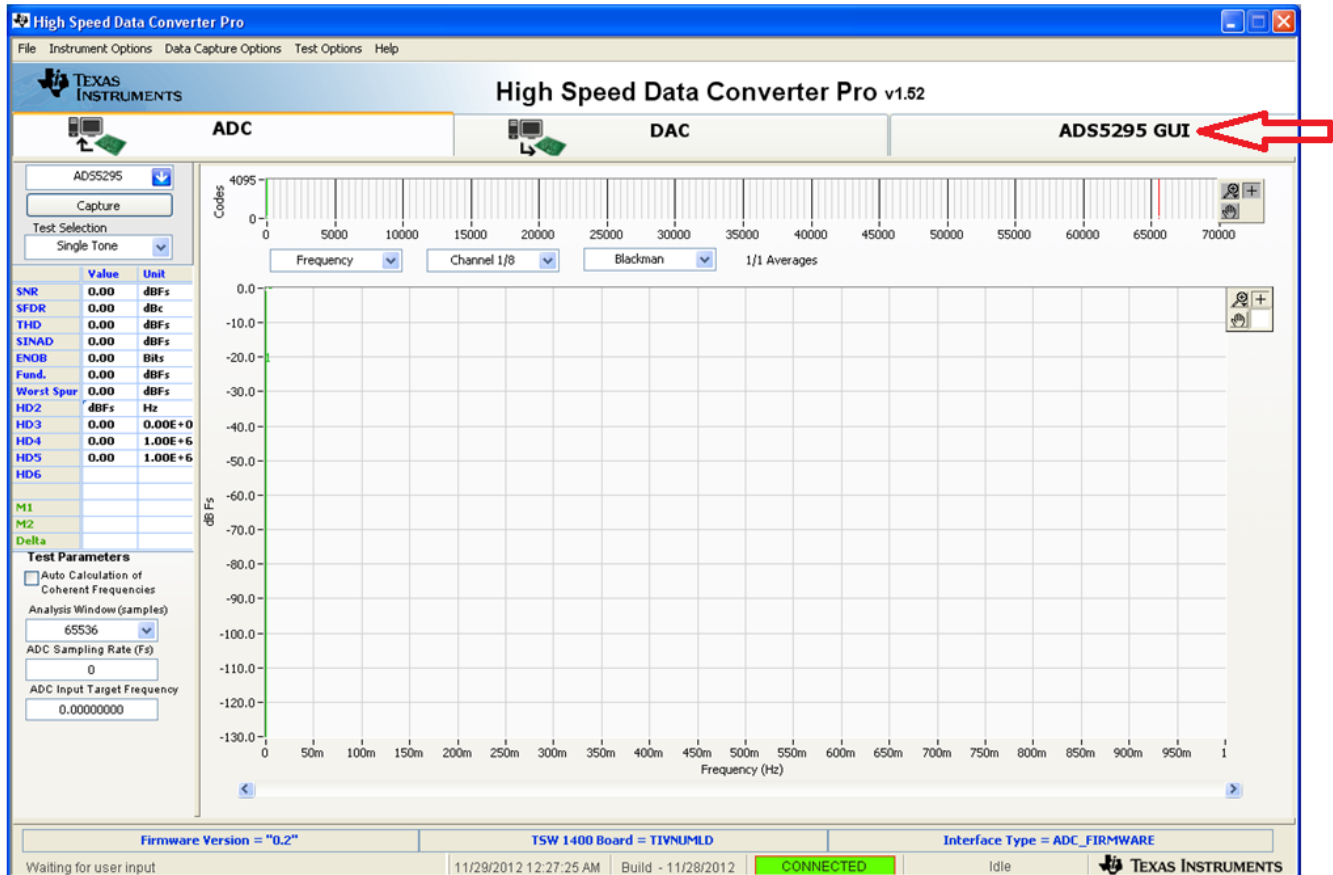

Figure 6. ADS5295 GUI
- A new tab labeled **ADS5295 GUI** appears in the *High Speed Data Converter Pro* GUI as shown in Figure 6. This tab allows control of the ADS5295 device.